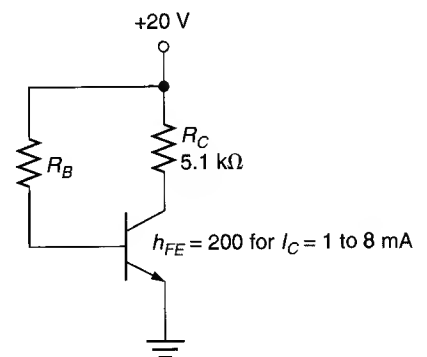

FIGURE 7.44
49. The transistor in Figure 7.44 has a value of $h_{FE} = 200$ for $I_C = 1$ to 8 mA. The value of $V_{CE(\text{sat})}$ for the component is 0.3 V. Derive the collector curves for the device for $I_C = 1$ to 4 mA and $V_{CE} = 0 \text{ V}$ to $V_{CE(\text{off})}$. Then, plot the dc load line for the circuit on the collector curves to determine the value of I_B required for mid-point-bias operation.